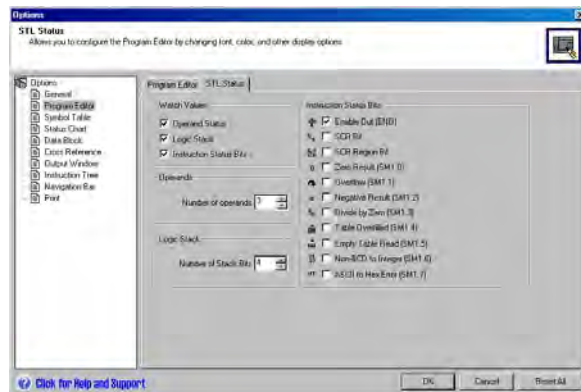

Figure 8-3 Options for Displaying STL Status
STEP 7-Micro/WIN allows you to display the status of a variety of parameters for the STL instructions. Select the **Tools > Options** menu command, select Program Editor, and click on the STL Status tab. See Figure 8-3.